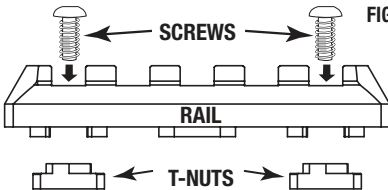

FIGURE B3
- Your M-LOK® accessory may arrive with nuts and nylon-patched (thread lock material) screws installed or with the nuts and screws loose with the accessory you have purchased. If the screws are loose, simply thread the nuts onto the screws through the accessory rail as shown (FIGURE B3).